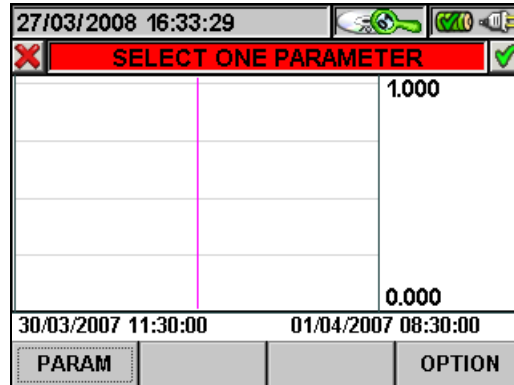

Fig. 116: Selecting a parameter
- The **ESC** key (or smart icon ) to exit the function and go back to the “Selecting a parameter” page (Fig. 116).
3. Press the **ESC** key (or the smart icon ) to exit the function and go back to the “Selecting a parameter” page (Fig. 116).